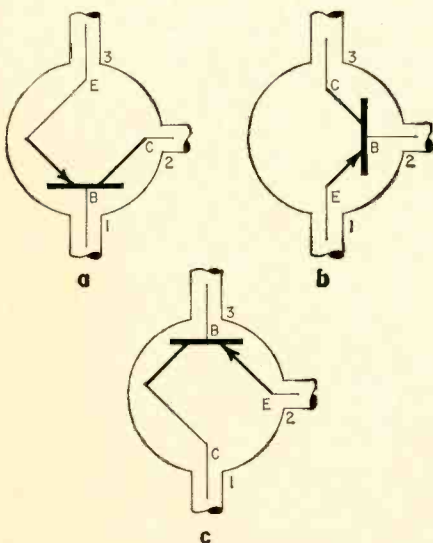
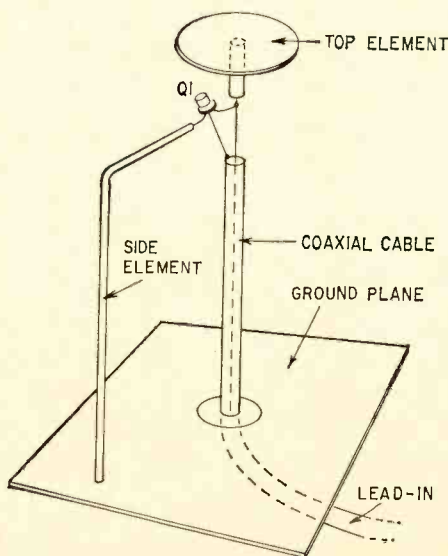

Fig. 3—Three transistor elements may be connected three ways in the SIA.
Fig. 4—Developmental version of SIA shows practical method of connections.
There are also three ways to connect a transistor to the antenna elements (Fig. 3). The emitter-base lead-in connection (B) seems the most likely to match low-impedance coaxial cable and receiver inputs. A practical model of this antenna might look somewhat like Fig. 4.